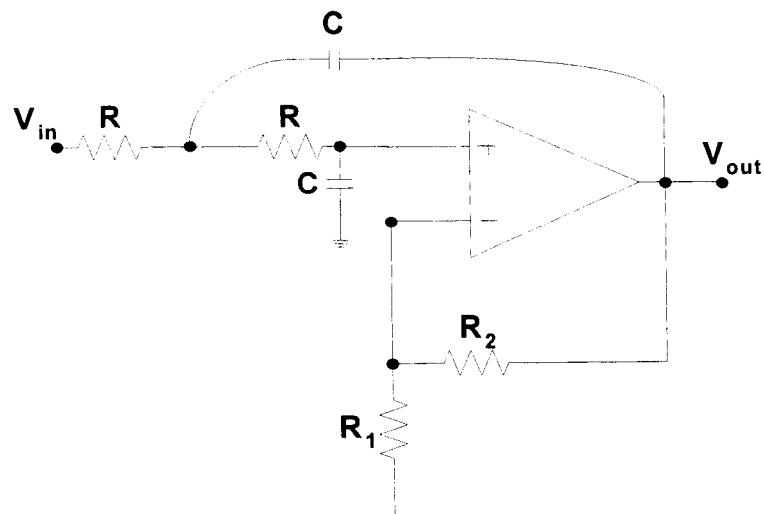

Figure 6.1
- c. Figure 6.1 illustrates a voltage-mode Sallen-Key biquad implemented by means of voltage amplifiers. Derive its current-mode equivalent.